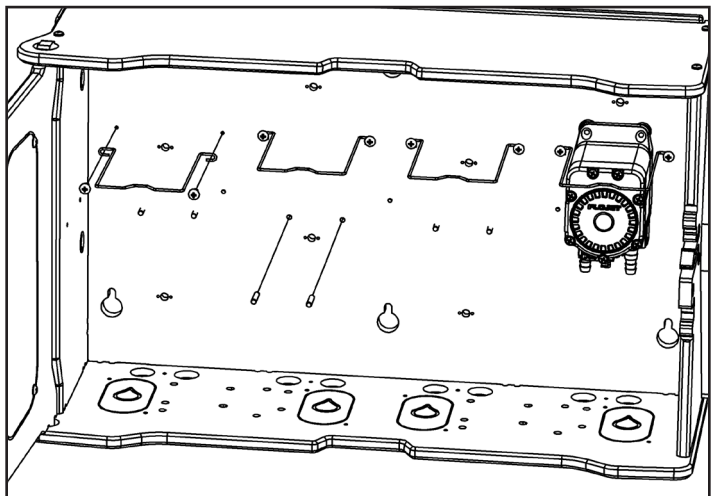

Fig. 5.2: Installing Flojets and mounting hardware
2. Using the included self-tapping screws, install the Flojet brackets for each pump to be used as shown in [Figure 5.2].
3. Using a hammer, insert the dowel pins to their recessed holes as shown in [Figure 5.2].